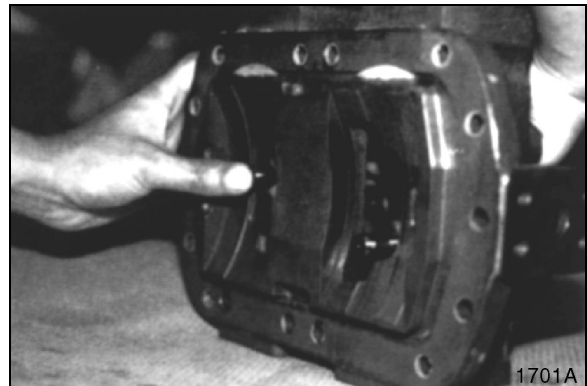

Figure 107
3. Insert rod into piston bore. See Figure 107.